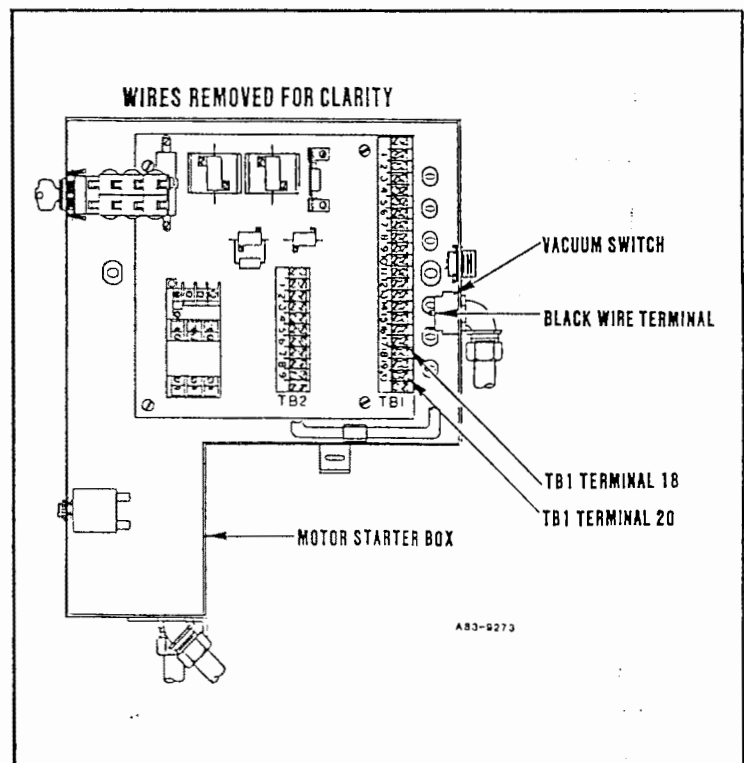

Figure 8.8 C
3. Check very carefully for broken or loose wires in motor starter box, especially around TB1 terminals 18 and 20 and around vacuum switch (see Figure 8.8 C). If any broken or loose wires are found, repair them and then recheck press.
8. While pressing down on foot switch, test for 40-55 volts DC across TB1 terminal 18 (18 is ground) and black wire terminal on vacuum switch with volt/ohm meter (see Figure 8.8 C). If 40-55 volts DC are not present, contact Spartanics or your service representative for help. If 40-55 volts DC are present, replace the slug vacuum solenoid as follows: